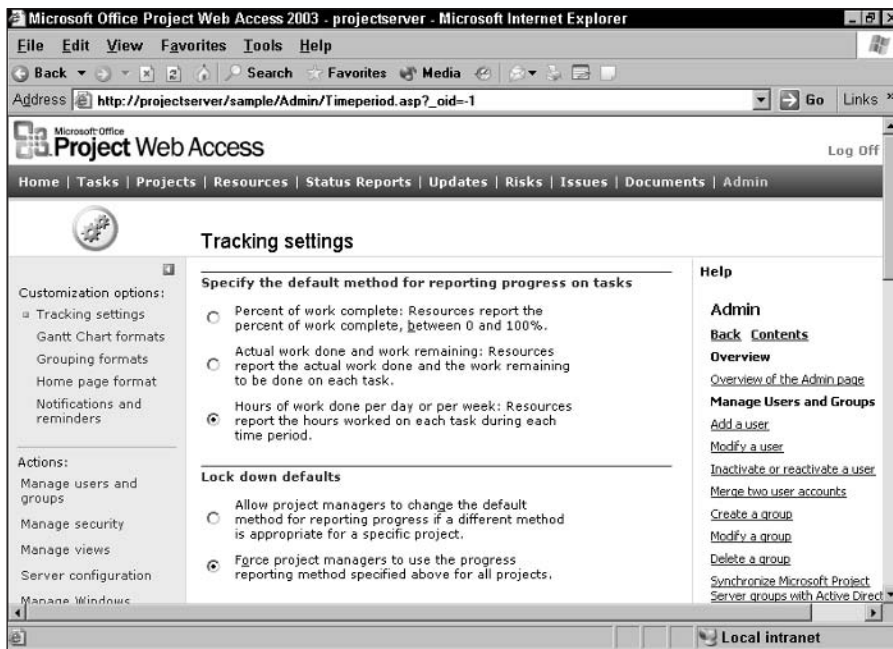

Figure 18-36: Use the list in the left pane to find the options that you want to change.
3. In the Customization options list in the left pane (see Figure 18-36), click the Notifications and reminders link.